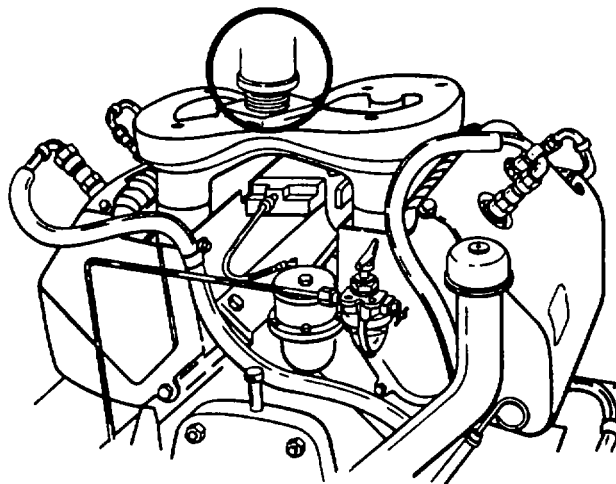

Figure 6-6. Air Cleaner Tube
- (8) Disconnect clutch linkage at clutch.
- (9) Attach lifting device beneath exhaust manifold.
- (10) Disconnect oil drain line at engine.
- (11) Disconnect air cleaner tube at carburetor. (Figure 6-6)
- (12) Remove engine from frame.